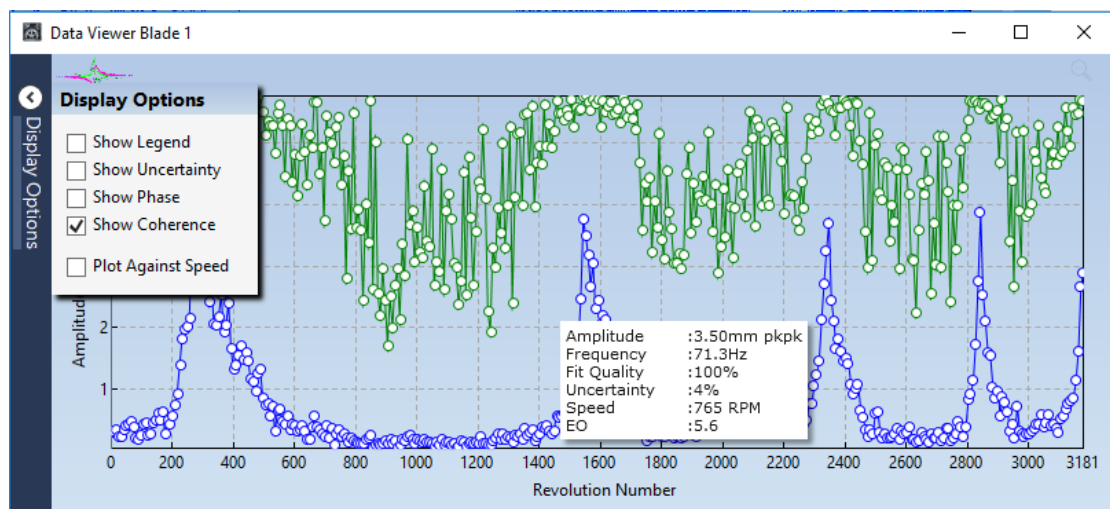

Figure 14 Individual Blade Data Result Viewer
Click the right mouse button on the Results display to bring up a context menu. This menu will allow you to export the data to disk or display the data in more detail in Figure 14 Individual Blade Data Result Viewer. The displayed data is a decimated subset of the data.
The Blade Data Viewer shown in Figure 14 displays the result of an analysis for an individual blade. It is used by both the Analysis Result Quick look (D) and the Analysis Area Editor methods.